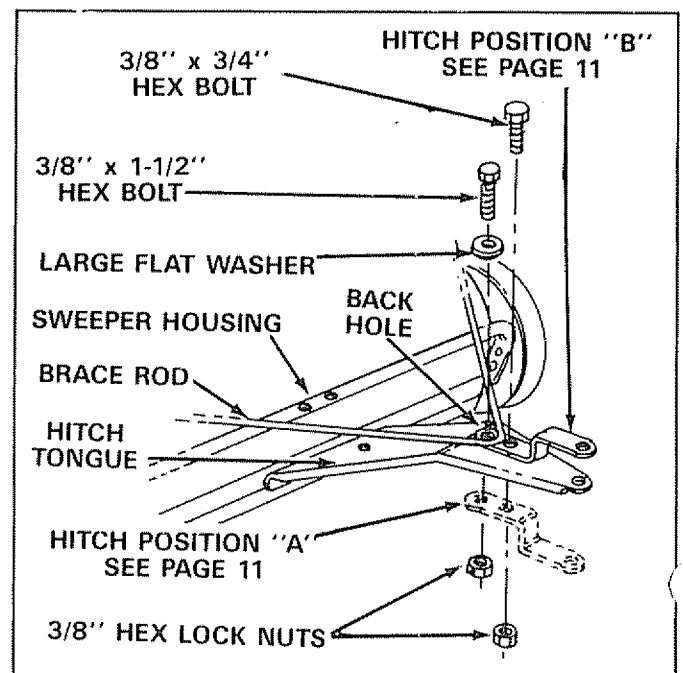

FIGURE 5
**Before assembling the hitch bracket to the hitch tongue, refer to figure 5 and page 11 to determine which position is required for your towing vehicle.**
3. Assemble the hitch bracket to the hitch tongue using 3/8" x 3/4" hex bolt (in front hole) and 3/8" hex lock nut. See figure 5. Assemble the brace rod over the back hole in hitch bracket and secure with large flat washer, 3/8" x 1-1/2" hex bolt and 3/8" hex lock nut. See figure 5. **Do not tighten at this time.**